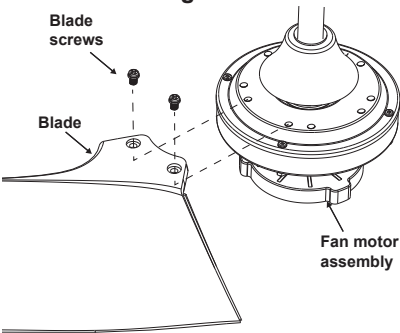

Figure 14
Step 3. Attach one of the five blades to the fan motor assembly using two blade screws. (Fig. 14)